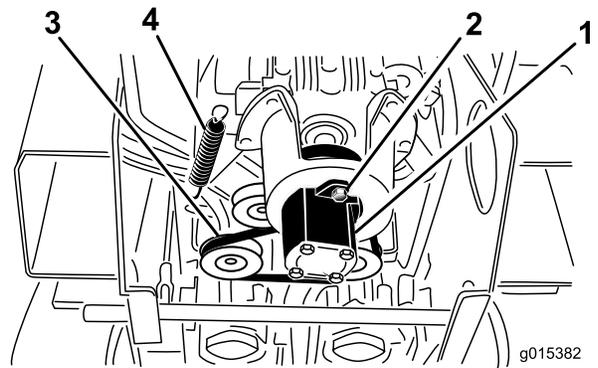

Figure 52
5. Loosen the 2 pump bolts (Figure 52).
6. Twist the pump counter clockwise and allow it to drop down away from the pulley (Figure 52).
7. Using a spring puller (contact your Authorized Service Dealer) or stiff metal hook, pull the end of the idler pulley spring off the spring bolt to release tension on the belt (Figure 52).